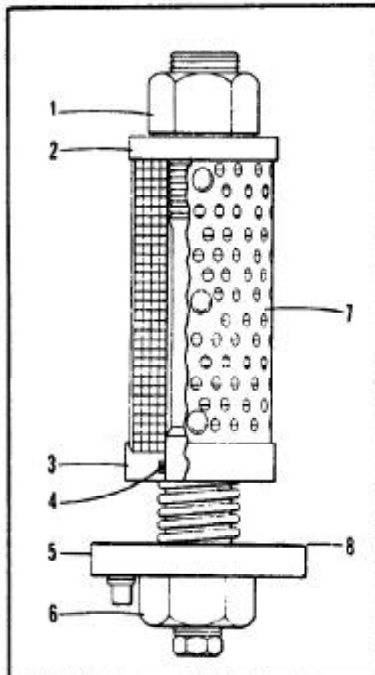

Fig. 8-8
- (b) Remove four nuts, holding filter head (5), Fig. 8-8, in place and lower filter.
- (c) Remove large nut (1) from top of filter.
- (d) Remove screen type filter (7) and wash in solvent or diesel fuel.
- (e) Check condition of "O" ring (4) in bottom end plate (3). Replace if necessary.
- (f) Replace gasket (8) if necessary and reinstall filter by reversing removal procedure.